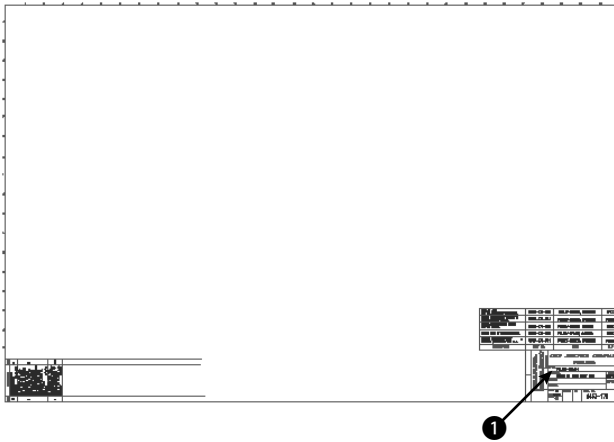

Figure 18-6: A title block can be saved as a file and inserted into any other drawing.
2. Save the file as ab18-02.dwg in your AutoCAD Bible folder. This is a large title block, as shown in Figure 18-6. OSNAP should be on. Set a running object snap for endpoint.
6. Use Zoom Window to zoom in on the text at the bottom-right corner of the title block. At the *Select objects:* prompt, select all of the 90°-rotated text at ❶ in Figure 18-6. Press Enter to end selection.